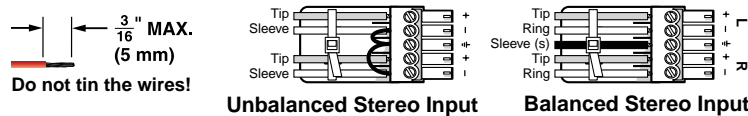
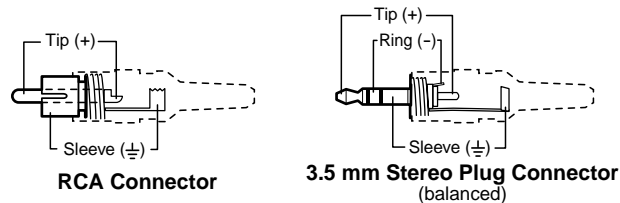
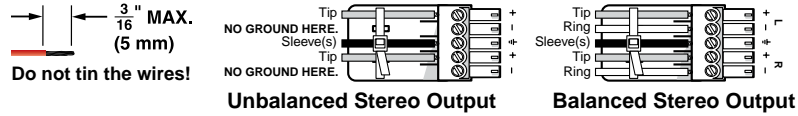

Figure 3. Captive Screw Connector Wiring for Stereo Audio Inputs
Figure 4. Typical Audio Connectors
Figure 5. Captive screw connector wiring for stereo audio output
See figure 3 to wire a connector for the appropriate input type and impedance level. Use the supplied tie-wrap to strap the audio cable to the extended tail of the connector.
- Figure 4 identifies the tip, ring, and sleeve. A mono audio connector consists of the tip and sleeve. A stereo audio connector consists of the tip, ring and sleeve. The tip, ring, and sleeve wires are also shown on the captive screw audio connector diagrams (see figure 3, above, and figure 5 on the next page).
See figure 5 to properly wire an output connector. Use the supplied tie-wrap to strap the audio cable to the extended tail of the connector.